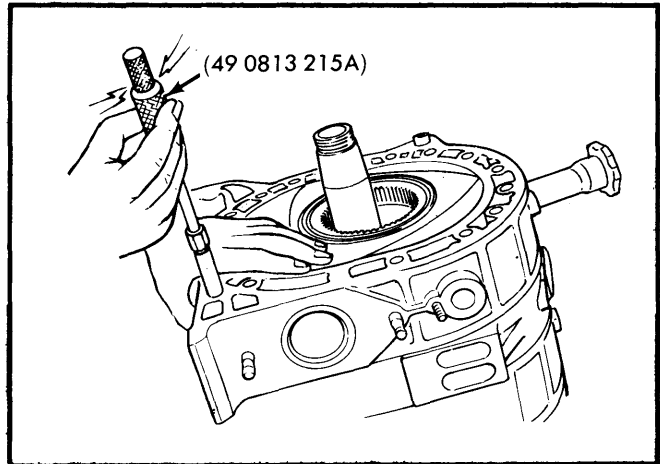

Fig. 5 Extracting Tubular Dowels from Engine
10) Attach dowel puller (49 0813 215A). Pull tubular dowels (See Fig. 5) from rear rotor housing. Hold housing with hand to prevent it from turning or pulling upward. Lift rear rotor housing away from rotor, being careful not to drop apex seals off rear rotor. Remove and discard two sealing rubbers and two "O" rings from front side of rear rotor housing.
14) Holding intermediate housing down by hand, pull tubular dowel from intermediate housing, using dowel puller (49 0813 215A). See Fig. 5. Lift intermediate housing from shaft. To do so, hold housing up off front housing, while helper pushes upward on eccentric shaft. Lift out eccentric shaft.